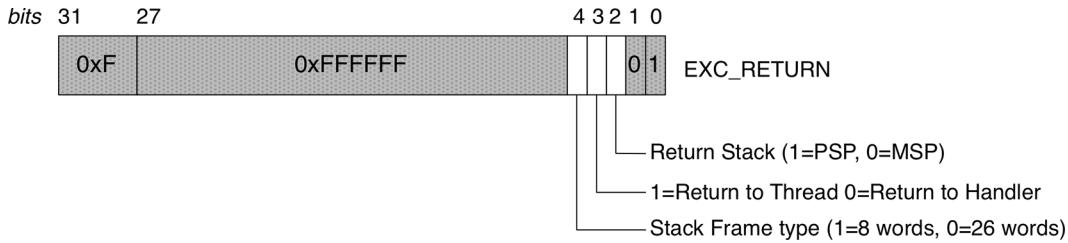

Figure 5: How the EXC\_RETURN value is interpreted
**Figure 5** shows the complete structure of the EXC\_RETURN value. As you can see, the fourth bit indicates which stack was used at the time the fault condition triggers. This clearly explains the usage of the `tst` instruction in the previous assembly code to detect the used stack.